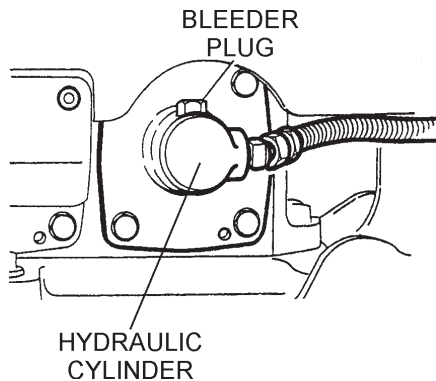

Figure 32. Bleeder Plug
- Loosen bleeder plug located at top of hydraulic cylinder on side of vibrator (Figure 32). Air remaining in the circuit will be forced out of the bleeder plug. Once all air has been purged from the hydraulic system, tighten bleeder plug securely
1. Take off the battery cover by removing the M6 nuts (Figure 32).